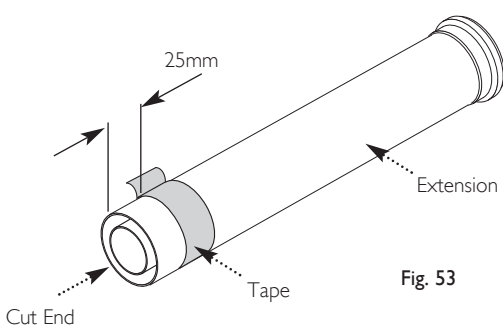

Fig. 53
16. Measure 25mm from the end of the flue extension and apply a length of tape around the outer duct (Fig. 53).